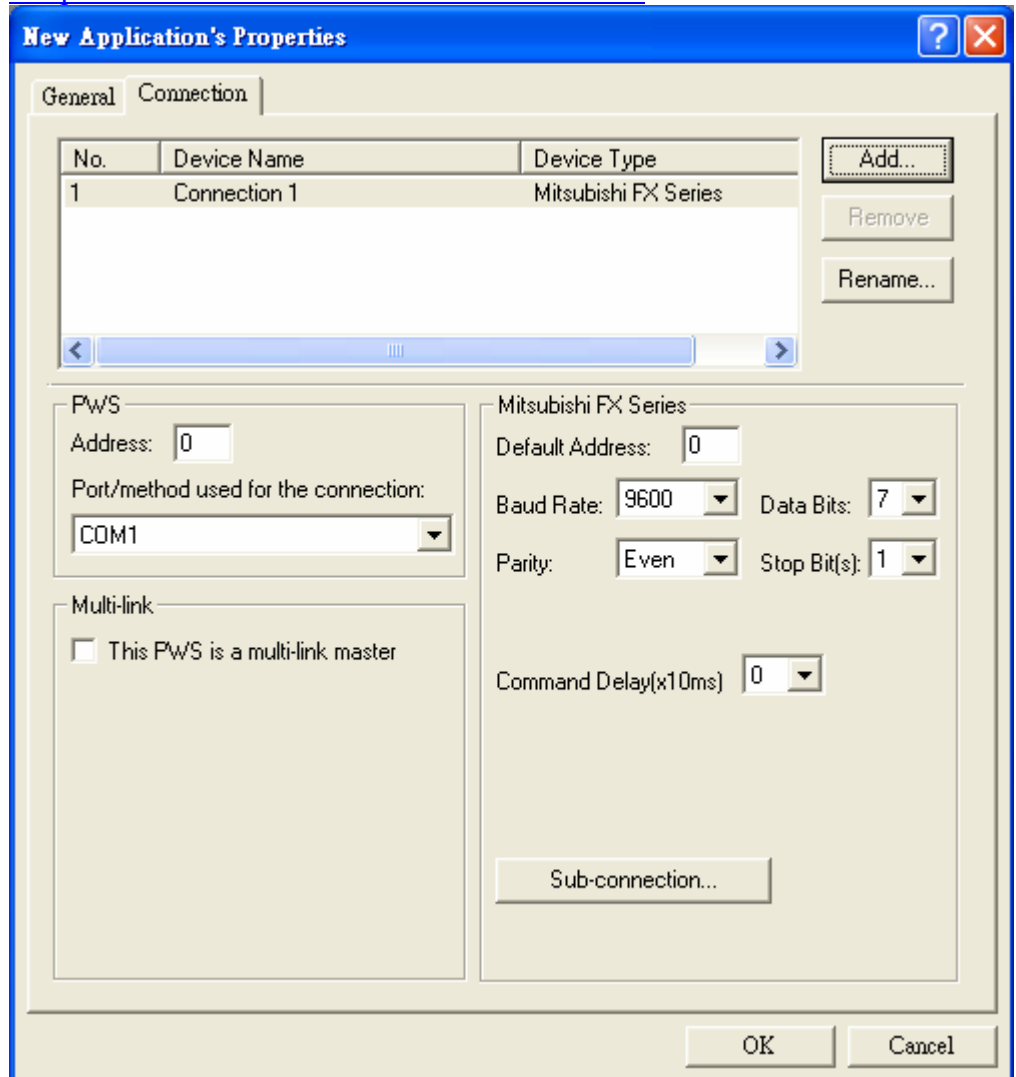

Figure 230. Setup the Connection with the first PLC
3. Then select the [Connection] tab, and set up the parameters for the first linked PLC including default address, baud rate, data bits, parity, stop bits...etc. See Figure 230. Please refer to Chapter 9. Communication between PLC & PWS.
Note that if SW5 = ON, the parameters of the first linked PLC must be set up according to the Configuration Table in System Menu; If SW5 = OFF, the parameters of the first linked PLC must be set up according to the [Connection] tab in [Application]/[Workstation Setup]. See Figure 230.
For the **second** PLC, one has to set up the parameters according to the [Connection] tab in [Application]/[Workstation Setup]. See Figure 230.